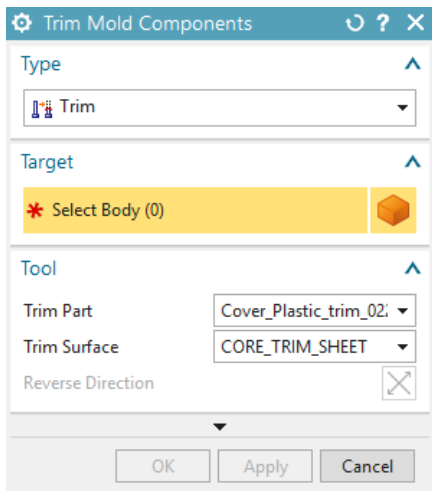

*Figure 15-112 The arrangement of lifter*
- Choose the **OK** button to close the **Slide and Lifter Design** dialog box. Refer to Figure 15-112 for arrangement of lifter and repeat the same procedure for other lifters.